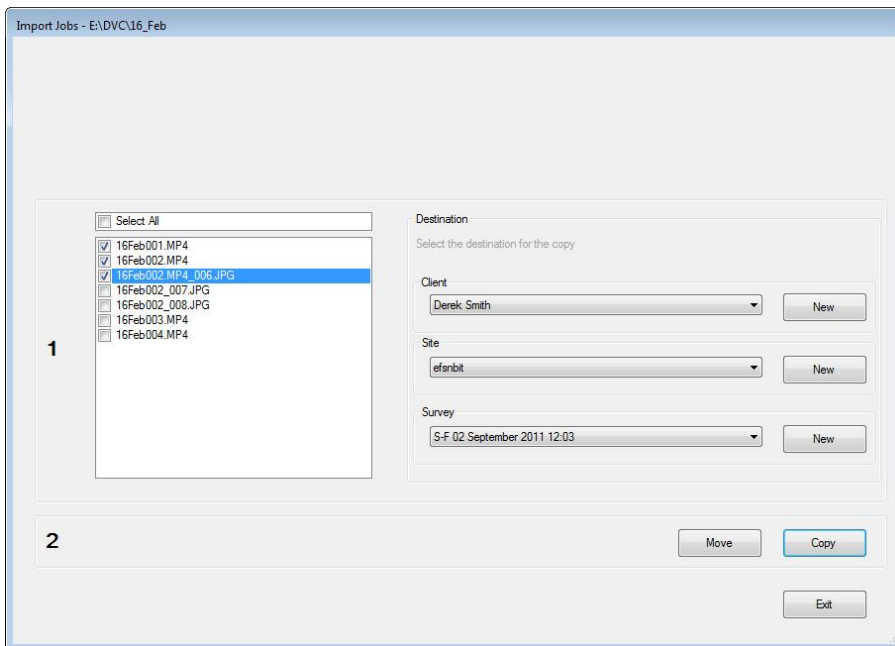

Figure 3.18 Importing survey files – No survey report present
- Press **Move** or **Copy** to import the selected files into FSM (see Figure 3.18). The files will be imported into the relevant subfolder in the FSM Jobs folder.